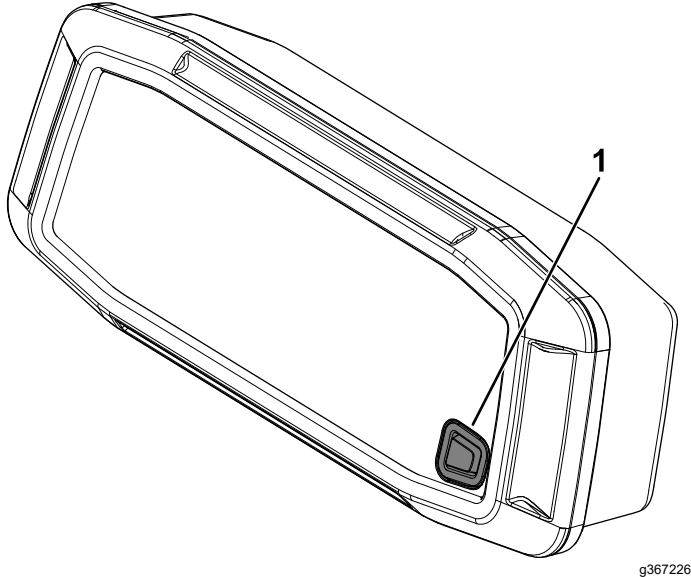

Figure 104
3. With the engine running and your foot off the brake pedal, press and hold the display button for 10 seconds (Figure 104).